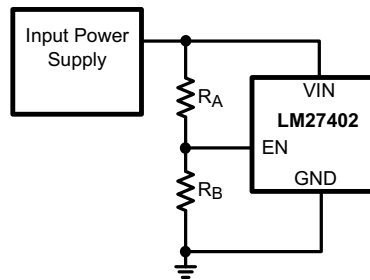

Figure 28. Enable Sequencing
If enable (EN) is not controlled directly, the LM27402 can be pre-programmed to turn on at an input voltage higher than the UVLO voltage. This is done with an external resistor divider from VIN to EN and EN to GND as shown in Figure 28.
The internal current source  $I_{\text{CS-}}$  is powered from the input voltage rail,  $V_{\text{IN}}$ . The minimum voltage required to drive that current source is 1 V from  $V_{\text{IN}}$  to  $V_{\text{OUT}}$ . If a low-dropout condition occurs where  $V_{\text{IN}} - V_{\text{OUT}} < 1 \text{ V}$ , the LM27402 may prematurely initiate hiccup mode. There are multiple options to avoid this situation. The first option is to enable the LM27402 after the input voltage has risen 1 V above the nominal output voltage as seen in Figure 28. The second option is to lower the comparator common-mode voltage shown in Figure 34 such that the  $I_{\text{CS-}}$  current source has enough headroom voltage.